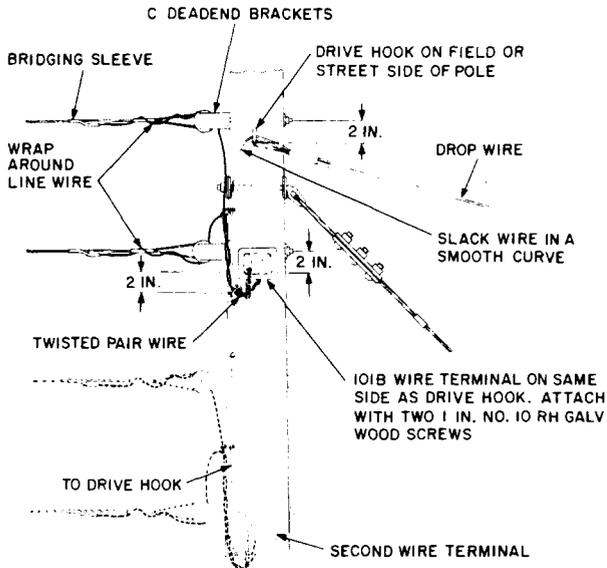

Fig. 6—Where Lines are Terminated on Deadend Brackets Attached to Face or Back of a Pole
4.15 Poles equipped with deadend brackets (Fig. 6).